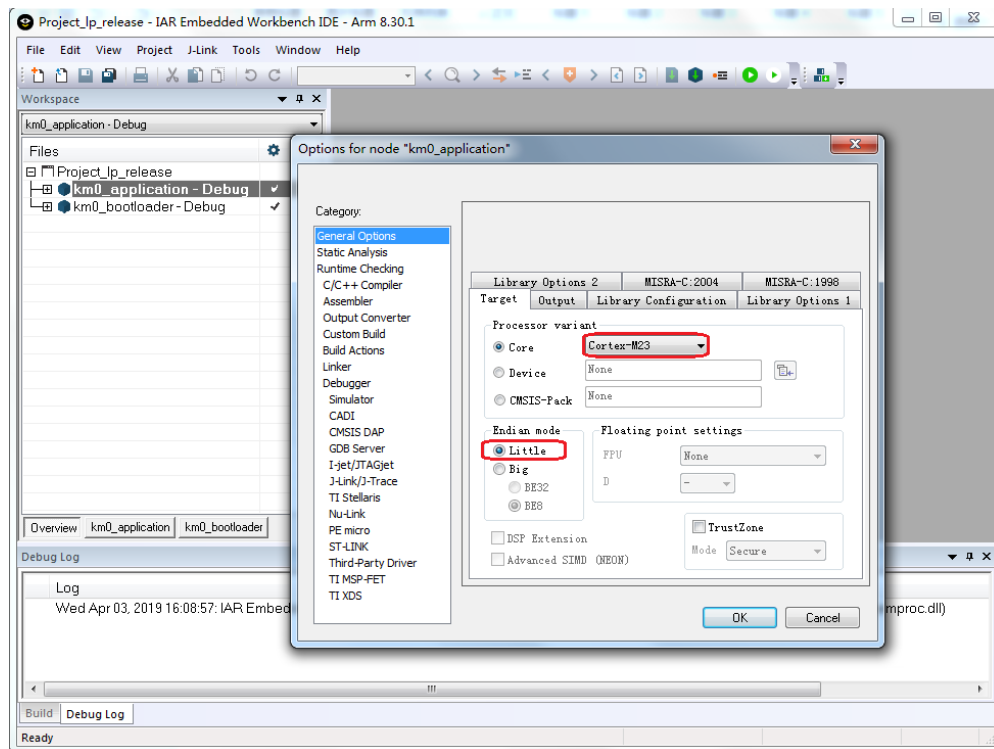

Fig 4-1 KM0 processor options
- (1) Open **amazon-freertos\projects\realtek\amebaD\IAR\aws_demos\Project_lp_release.eww**.
- (2) Make sure km0_bootloader and km0_application are in Workspace. Click **Project > Options, General Options > Target > Processor Variant > Core**, verify the CPU configurations according to Fig 4-1